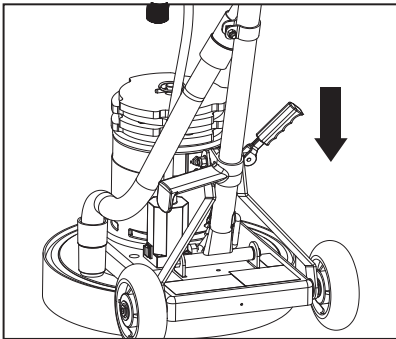

Figure 9
2. Lock the handle in the best position for operation. (Fig. 9)